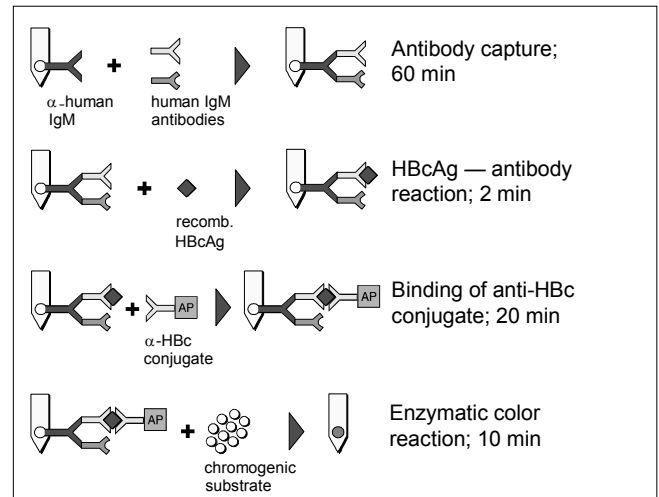

Figure 1. Principle of the Test
At the outset of the test, serum or plasma specimens are prediluted 1:50 and added to the diluent in the wells of row A of the Developing Plate. The Card is then inserted in the wells of row A. IgM will be captured by the anti-IgM antibodies on the lower spots on the teeth of the Card (Figure 1). In row B, anti-HBc IgM captured on the lower spots of the teeth, and the rabbit anti-HBc on the upper spots (Internal Control), will react with HBcAg. In row C the bound HBcAg will react with rabbit anti-HBc antibody labeled with alkaline phosphatase (AP). In the next two rows, unbound components are removed by washing. In row F, the bound alkaline phosphatase will react with chromogenic components. The results are visible as gray-blue spots on the surface of the teeth of the Card.